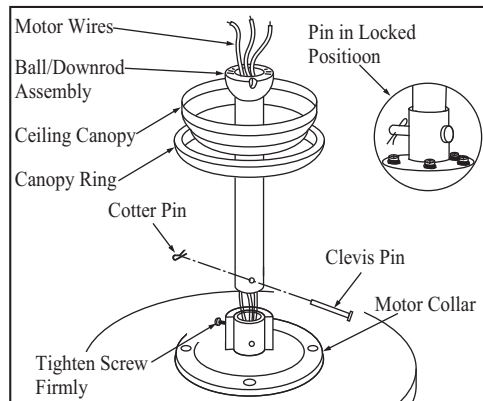

Figure 7
3. Route wires exiting from the top of the fan motor through the canopy ring. Make sure the slot openings are on top. Route the wires through the canopy and then through the ball/downrod assembly (Figure. 7).
5. Align the holes at the bottom of the downrod with the holes in the coupling on top of the motor housing. (Figure 7) Carefully insert the clevis pin through the holes in the collar and downrod. Be careful not to jam the clevis pin against the wiring inside the downrod. Insert the cotter pin through the hole near the end of the clevis pin until it snaps into its locked position, as noted in the circle inset of Fig. 7.
6. Tighten two set screws on top of the fan motor firmly. (Figure 7)